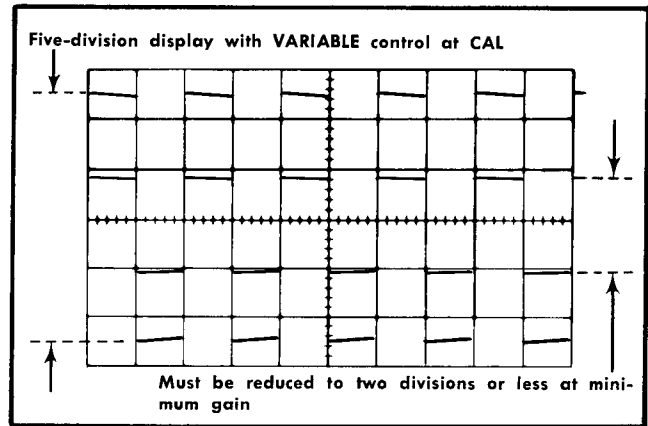

Fig. 5-4. Typical CRT display showing correct Channel 1 and 2 VARIABLE control range (double exposure).
- c. CHECK—Turn the CH 1 VARIABLE control clockwise just past the CAL detent (minimum gain). Display should be reduced to two divisions or less (indicates adequate range for continuously variable deflection factors between the calibrated steps; see Fig. 5-4); CH 1 UNCAL light must be on when CH 1 VARIABLE control is not in CAL position.
- e. CHECK—Turn the CH 2 VARIABLE control clockwise just past the CAL detent (minimum gain). Display should be reduced to two divisions or less (indicates adequate range for continuously variable deflection factors between calibrated steps; see Fig. 5-4). CH 2 UNCAL light must be on when CH 2 VARIABLE control is not in CAL position.